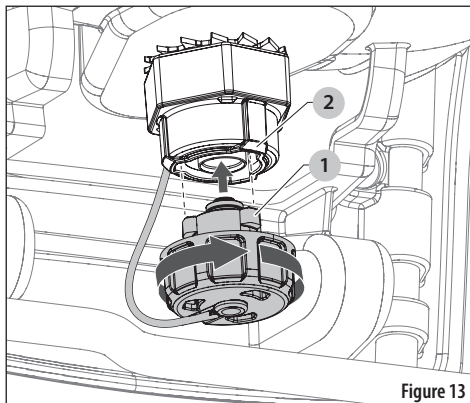

Figure 13
1. Align the tethered cap plug barb tabs (1) with the tank cap (2) and push into the cap until it stops.
2. Turn tethered cap plug clockwise to secure it to the cap. See Figure 13.